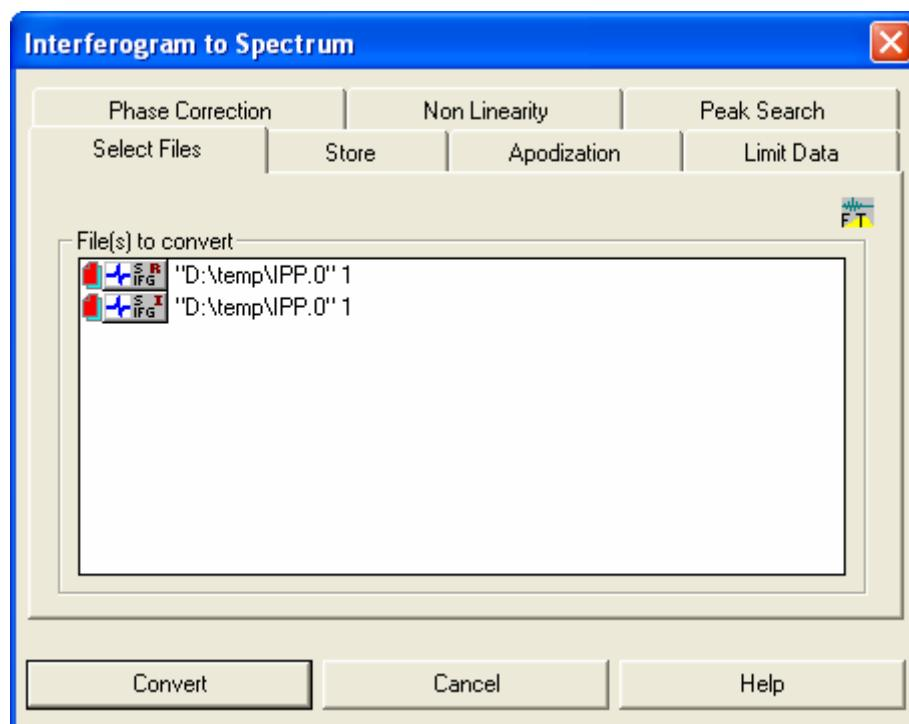

Fig. 27: Applying the “Interferogram to Spectrum” function to the real part sample interferogram and to the imaginary part sample interferogram
- This calculation is done once again using the “Interferogram to Spectrum” function, but for these signals, the calibration phase spectrum is used. By pressing the Ctrl button of the keyboard and using the mouse, select the data blocks “S_IFG^R” (the real part interferogram) and “S_IFG^I” (the imaginary part interferogram) of the file resulting from the sample measurement. Select in the “Manipulate” menu again the “Interferogram to Spectrum” function. Thereupon, the “Interferogram to Spectrum” dialog window appears. (See figure 27.)